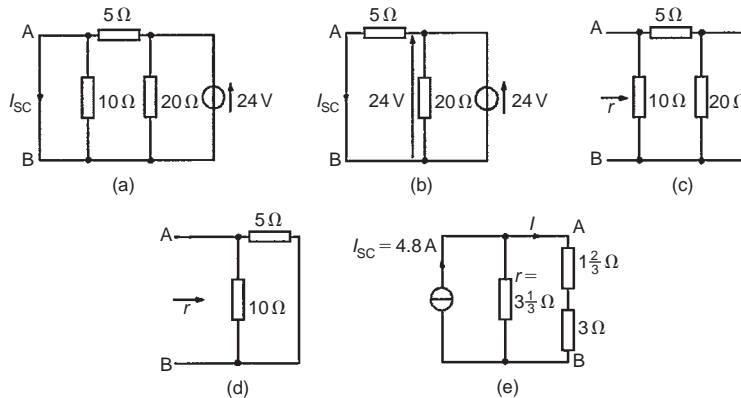

Figure 15.61
- (i) The branch containing the 3Ω resistance is short-circuited as shown in Fig. 15.61(a).
- (ii) From the equivalent circuit shown in Fig. 15.61(b),
(iii) If the 24 V source of e.m.f. is removed the resistance 'looking-in' at a break made between A and B is obtained from Fig. 15.61(c) and its equivalent circuit shown in Fig. 15.61(d) and is given by:
(iv) From the Norton equivalent network shown in Fig. 15.61(e) the current in the 3Ω resistance is given by: